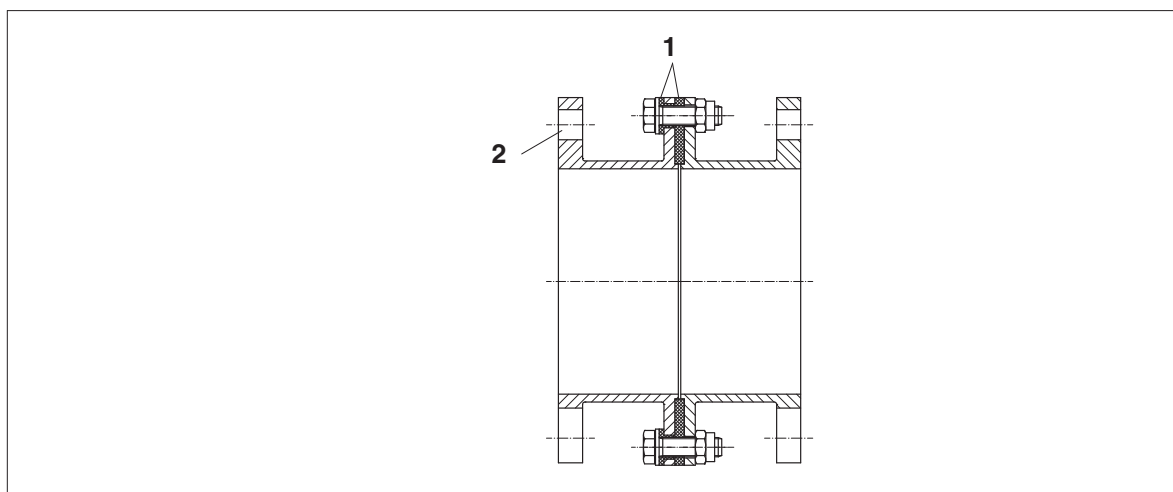

Fig. 17: Split spacer with creep-current insulation
Here the apply the same assembly instructions as those in item 6.8.1, however in the case of "U"-spacers with integrated creep-current insulation (see Fig. 17) the tightening torques in table 6, "Tightening torques for connecting bolts with creep-current insulation" must always be adhered to.